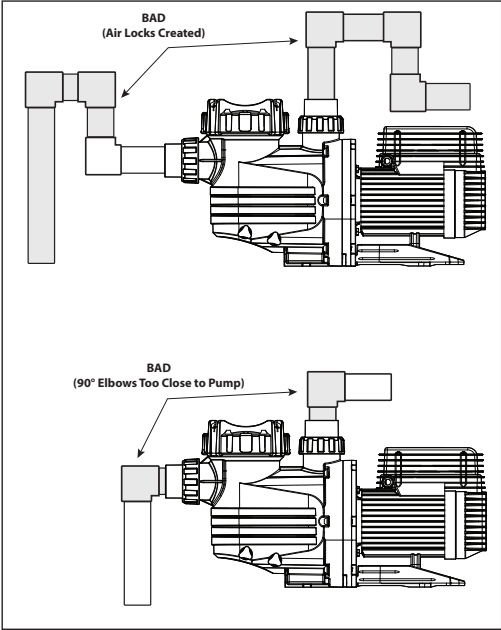

Figure 9. Incorrect Installation Examples
5. To ensure easy priming of the pump, avoid creating air locks in the plumbing (looks like an inverted “U” shape). Below are examples of good and bad plumbing practices (see Figure 9).